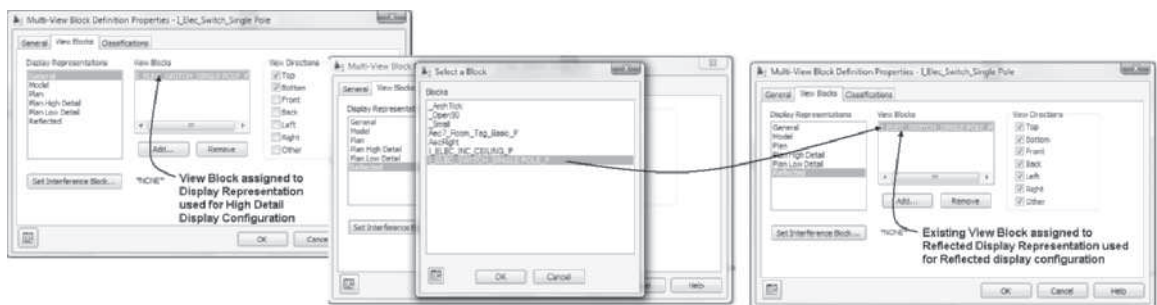

FIGURE 10.15 View block added to the Reflected display representation
14. Select the View Blocks tab of the Multi-View Block Definition Properties I_Elec_Switch_Single Pole dialog box. Select a display representation in the left window to display the view block applied for the View Direction that is checked. Therefore, the I_Elec_Switch_Single Pole_P view block will be displayed when the workspace is viewed from the Top or Bottom as shown in Figure 10.15.
15. To view the switch with the Reflected display configuration, choose Reflected display representation from the View tab. Select the **Reflected** display representation at the left and click the **Add** button to open the **Select a Block** dialog box. Select the **I_ELEC_SWITCH_SINGLE_POLE_P** block from the **Select a Block** dialog box as shown at the right in Figure 10.15. (Note: the blocks listed in the **Select a Block** dialog box of your drawing may include additional blocks not shown in Figure 10.15.) Click **OK** to dismiss the **Select a Block** dialog box. Verify that all **View Directions** are checked ON for the **Reflected** display configuration. Click **OK** to dismiss the Multi-view Block Definition Properties dialog box.